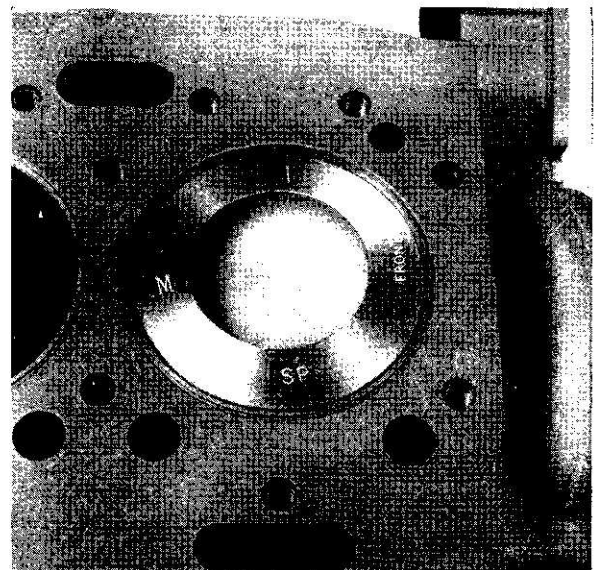
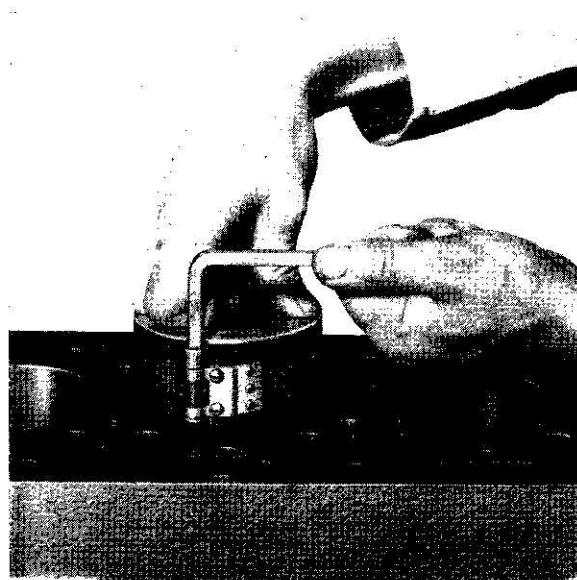

Fig. 6
Fig. 7
2. Using a ring guide (Fig. 7), insert the pistons and connecting rod into the top of their respective cylinder bores. The piston and rod number must relate to the cylinder into which it is being fitted and the rod identification number must be opposite to the camshaft. The word "Front" or arrow marked on the piston crown must be towards the front of the engine (Fig. 6).